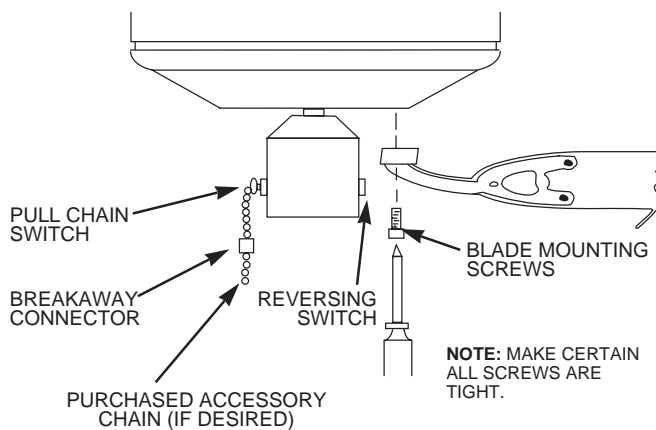

FIGURE 9
**B.** Remove the screws and rubber bumpers from the motor hub. Insert a mounting screw (provided) in hole in blade bracket. Use a screwdriver to hold in place. Align blade holes with mounting holes in hub by turning screw and readjusting blade bracket until screw mates with threaded hole in hub. Do not tighten until both screws have been put in blade bracket. Repeat for all blades. See Figure 9.
**B.** Switch operates in this sequence: “High,” “Medium,” “Low,” “Off.” Pull chain slowly to operate. Also, release the chain slowly so as to prevent chain from flying up into blades, possibly resulting in damage to blades, or pull chain. The breakaway connector is designed to separate from the chain at a pre-determined force. If this separation occurs, simply reinsert the connector. It can be reused again and again. See Figure 9.
**C.** Motor is electrically reversible. When first operating fan, determine direction of air flow. If you wish to change direction, switch fan off and allow to stop. Slide reversing switch to the opposite position and switch fan back on. See Figure 9.